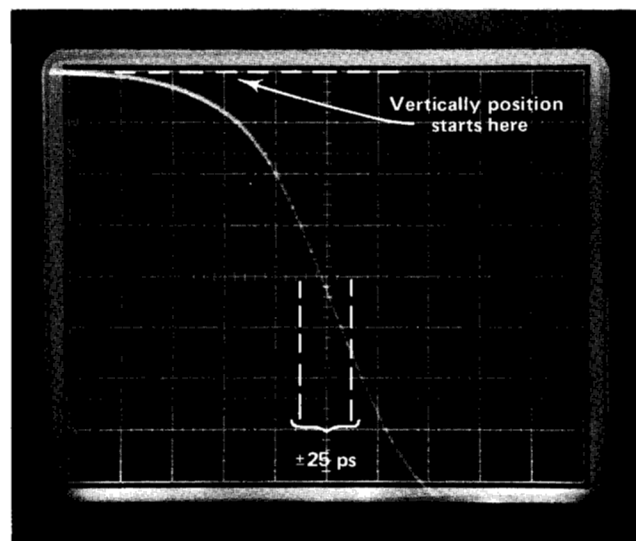

Fig. 6. -INPUT signal.
6. Vertically position the trace so that the pulse (now negative going) starts at the graticule upper left side. Check that the trace intersects the horizontal graticule centerline within ± 25 ps of the vertical line, see Fig. 6.